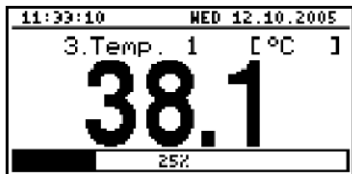

Fig. 6.2. “Single channel” mode
- “**Single channel**” mode (Fig. 6.2) enables the last measurement for one of the measurement channels to be viewed in the numeric and graphic form (bar).